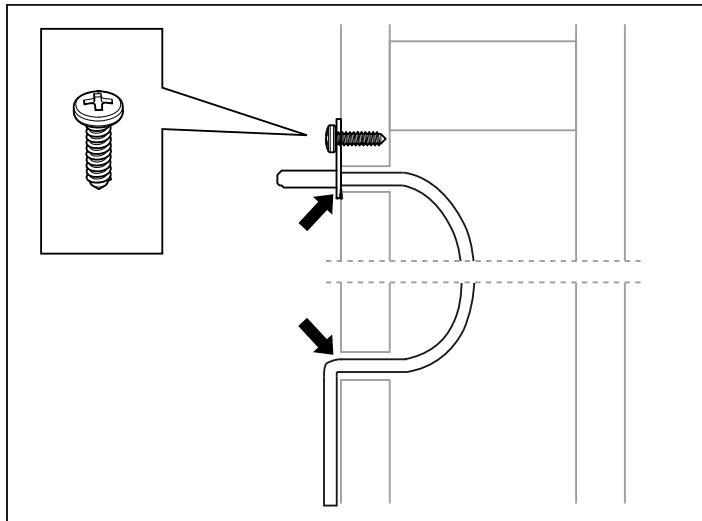

Figure 10: Seal any holes
8. Install the sensor on the wall see. The sensor is shown here installed with a Tylö Sensor cover (optional item number: 9600 0038). The thermistor wire may also be passed through the wall. Seal any holes in the wall behind the sensor, see Figure 10. The thermistor wire may be extended outside the sauna using low voltage wire (2-lead).